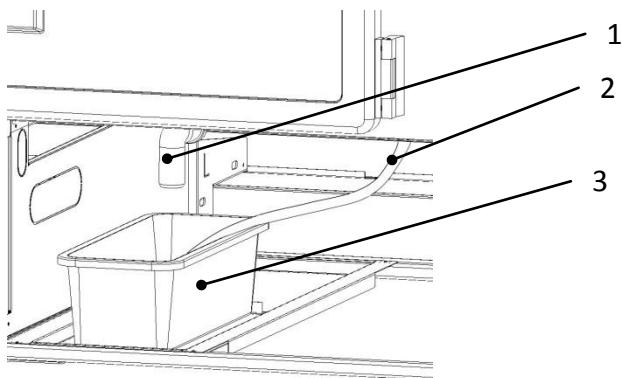
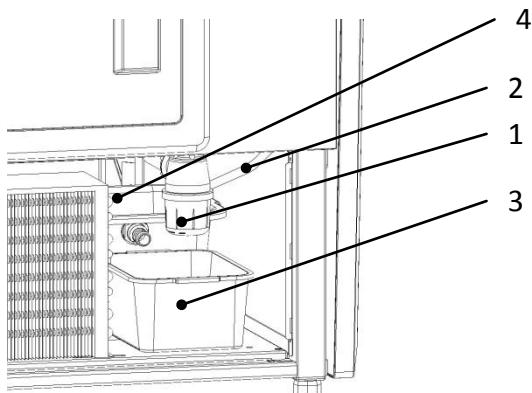

Fig. 6 Condensate container (version without an evaporator)
Fig. 7 Overflow (version with an evaporator)
9. Place the condensate container on the base of the device, according to *Fig. 6 (p. 9)* or *Fig. 7 (p. 9)*
If the device isn't equipped with automatic condensate evaporation, the condensate must be drained from the container if it is full *Fig. 6 (p.9)*. The amount (frequency) of condensate removal depends on the device operation conditions (i.a. air humidity, frequency of opening of the doors, the amount and temperature of the inserted products).